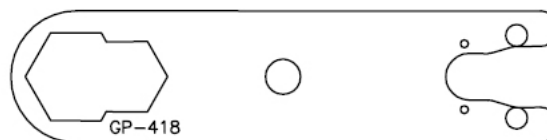

Figure 11
- Figure 11:** Using span wrench, remove valve tube from manifold cavity.